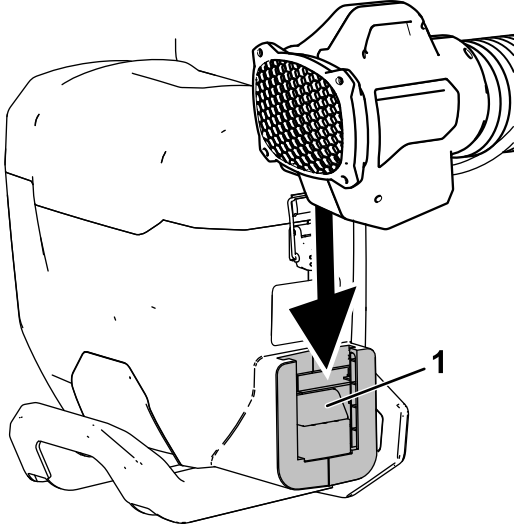

Figure 4
1. Align the blower cannon with the backpack power connection (Figure 4).